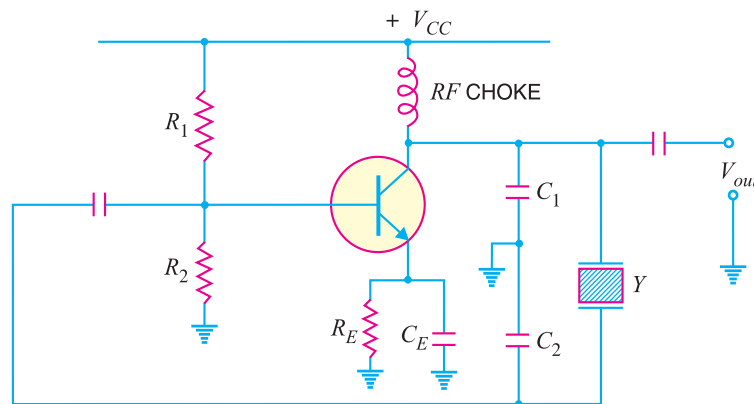

Fig. 14.23
Fig. 14.23 shows the transistor crystal oscillator. Note that it is a Collpit's oscillator modified to act as a crystal oscillator. The only change is the addition of the crystal (Y) in the feedback network. The crystal will act as a parallel-tuned circuit. As you can see in this circuit that instead of